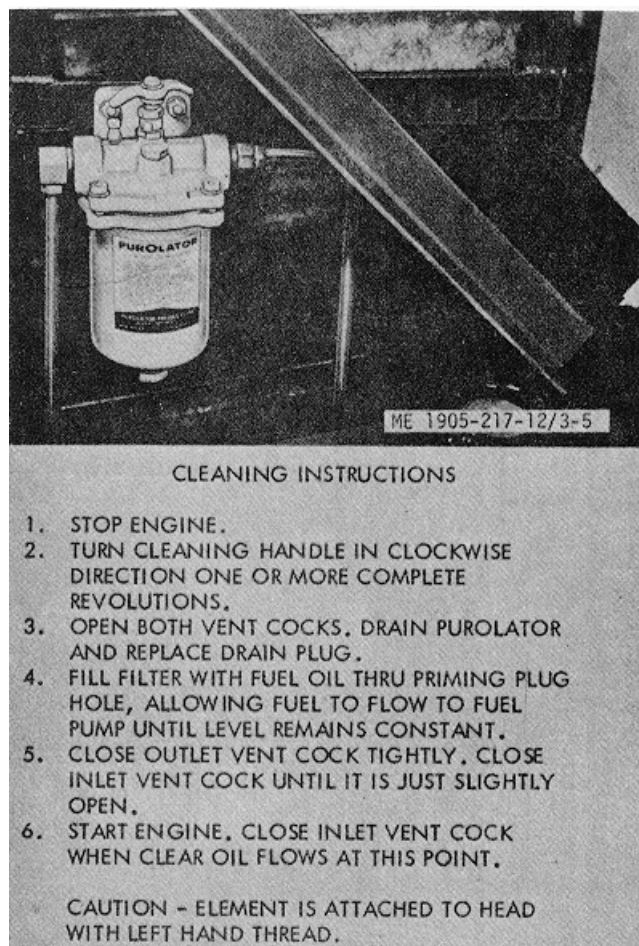

Figure 3-6. Primary fuel line strainers ,hull numbers 8540 thru 8560 and 8580 thru 8618.
**3-9. Primary Fuel Line Strainers** (Mounted on Aft Bulkhead of Engine Room, Hull Numbers 8540 thru 8560 and 8580 thru 8618). Refer to figure 3-6 and service the strainers every eight hours.